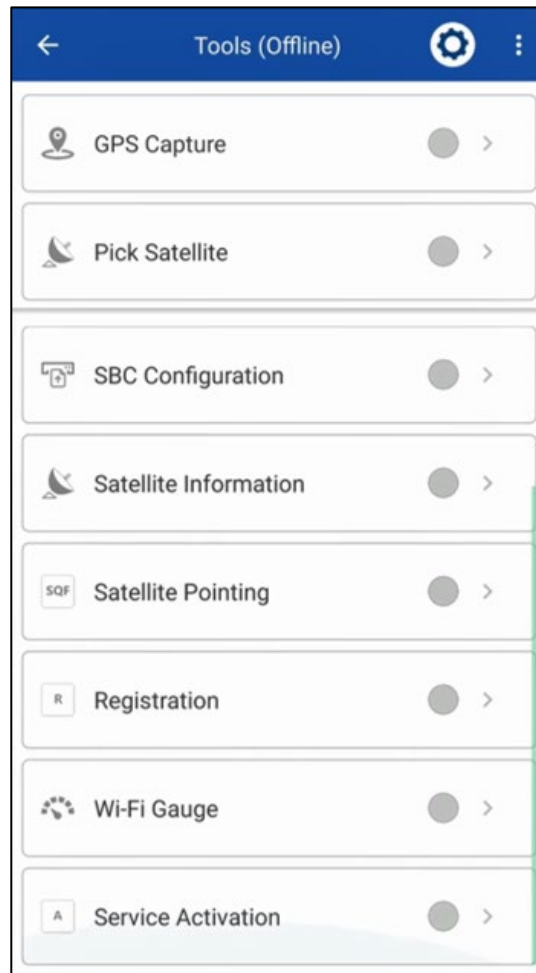

Figure 6: OASIS homepage – Tools (Offline)
- **Tools (Offline)** – *Commonly used during repair orders or when repointing.* Shows a selection of tools you can use offline without affecting your work order (Figure 6).